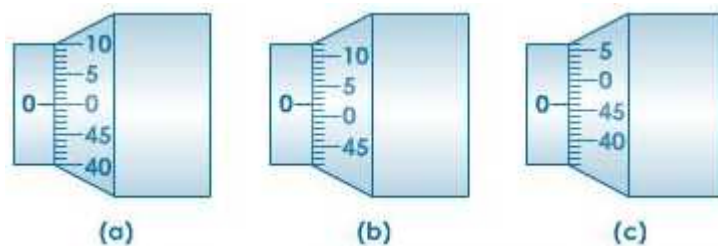

Figure 3. (a) No zero error (b) Positive zero error (c) Negative zero error
- If on touching the tip of the spindle with the anvil, the zero mark of the rotating scale coincides with the zero mark of the reading line, the instrument is free from zero error, figure 3 (a).
- But if the zero mark of the rotating scale remains below the reading line of the main scale, the zero error is said to be positive. **To find it**, note the division of the rotating scale which coincides with the reading line of the main scale. Now multiply this number with the least count which gives the zero error. In figure 3(b) the 2 division of rotating scale coincides with the reading line. If the least count of the screw gauge is 0.01 mm, then zero error is $= +2 \times 0.01 = +0.02 \text{ mm}$.
- On the other hand, if the zero of the rotating scale goes above the reading line of the main scale, the zero error is said to be negative. **To find it**, note the division of the rotating scale which coincides with the reading line of the main scale. Subtract it from the total number of divisions on the rotating scale and then multiply it with the least count. In figure 3(c) 46 division of rotating scale coincides with the reading line and the total number of divisions on the rotating scale are 50 and the least count is 0.01 mm, then the zero error $= -(50 - 46) \times 0.01 = -0.04 \text{ mm}$.